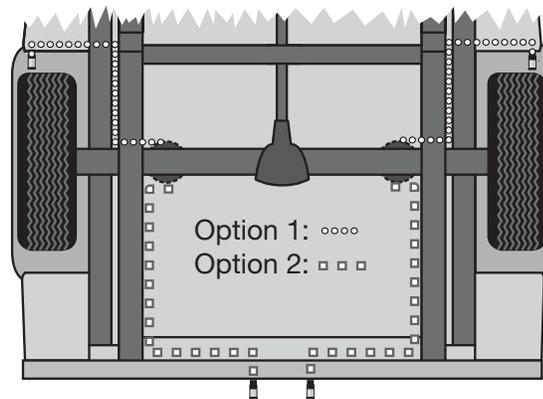

fig. C.1
6. Route the air line along the frame to the fitting on the air spring (fig. C.1). Keep AT LEAST 6" of clearance between the air line and the exhaust system. Avoid sharp bends and edges. Use plastic tie straps to secure the air line to fixed points along the chassis. Be sure that the tie straps are tight, but do not pinch the air line. Leave at least 2" of slack to allow for any movement that might pull on the air line.